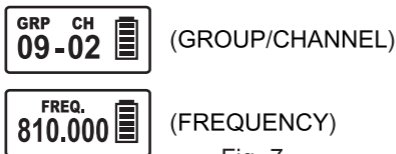

Fig. 7
3. Under GROUP / CHANNEL and FREQUENCY modes, it display message in accordance with receiver, Fig. 7.